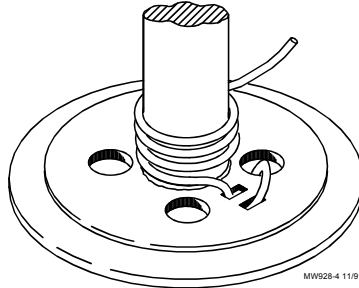

Figure 6. Cable Wrap on Drum
6. Attach one end of the 3/16" [4.8 mm] cable to the winch as shown in **Figure 6**. Unroll the cable along the length of the water line.